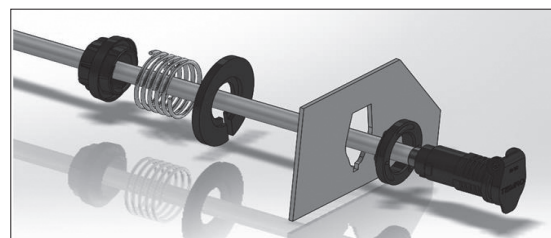

Figure 2
3. Slide the Front Disk (110140) through the hole at an angle. [Reference Figure 2]